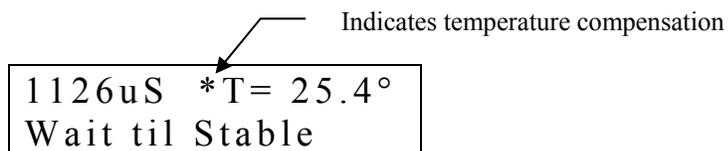

Figure 6-3 Conductivity Calibration Screen
8. If conductivity temperature compensation is enabled (as indicated by an asterisk next to the value, see Figure 6-3), enter the value of the conductivity standard **at 25°C**.